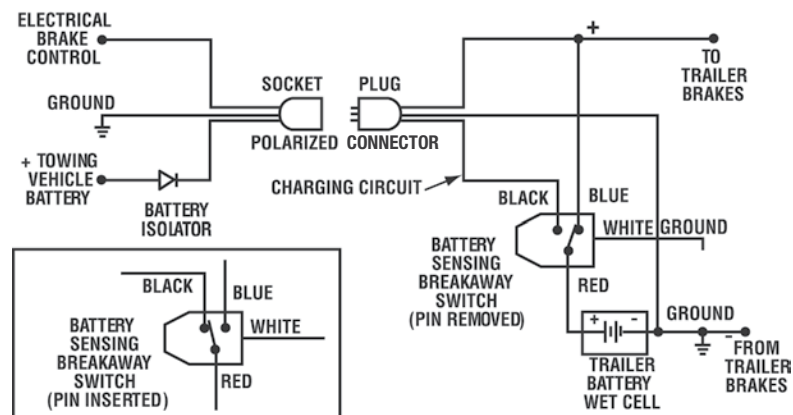

Figure 4 - Wiring Diagram
Refer to the wiring diagram shown in Figure 4 as you follow the electrical connection instructions below. Plan ahead by starting with long wires. All wires must be a least No. 12 AWG and insulated. The final length of the wires from the trailer, including the connector, should be longer than the safety chains.
- a. If a charging circuit is used, it must be connected through the Safety Sentry switch using the black wire as shown in Figure 4.
- a. Check your wiring to ensure all connections have been made properly. Refer to Figure 4. Check all connections to be sure they are tight. Check ground connections to be sure they are attached to rust-free areas of the trailer frame. They must be connected to bare metal surfaces.